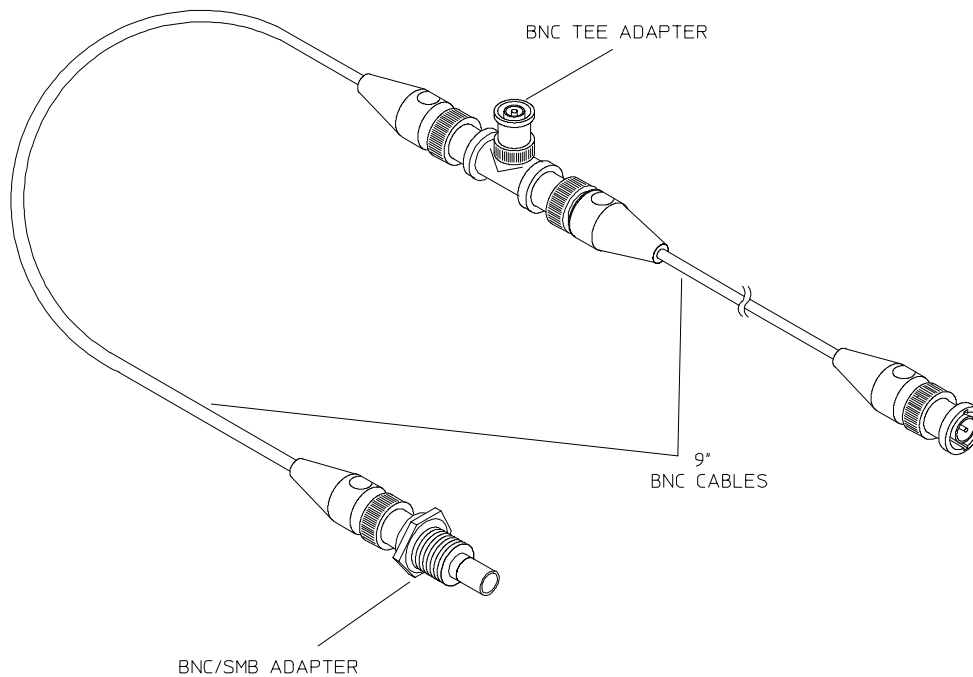

Figure 4-4. Ext Trig Null Calibration Connections
1. Connect the cables, BNC adapter, and BNC tee adapter together as shown in figure 4-4.